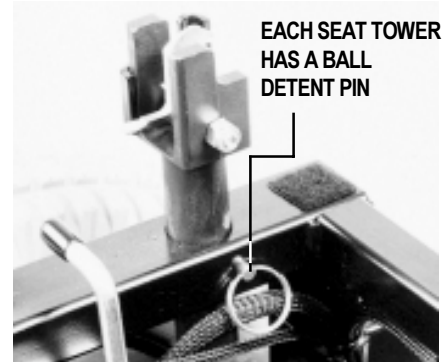

Figure 17. Seat Tower Pin
3. Remove the ball detent pin from each seat tower. See figure 17.